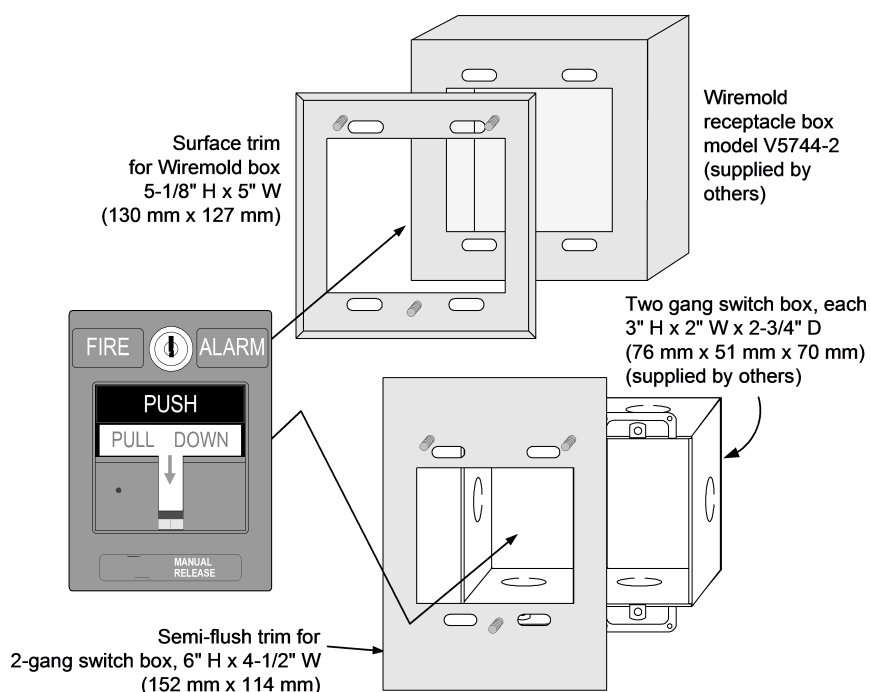

Figure 4: Retrofit Mounting Information
Preferred Mounting. For surface mounting of these addressable manual stations, the preferred electrical boxes are shown in the illustration to the right. Refer to Figure 4 for Wiremold box mounting compatibility.
For retrofit and new installations, additional compatible mounting boxes and the required adapter plates are shown in Figure 4.
**Note:** Figure 4 shows 2099-9814 Surface trim for Wiremold box and 2099-9813 Semi-flush trim for 2-gang switch box.